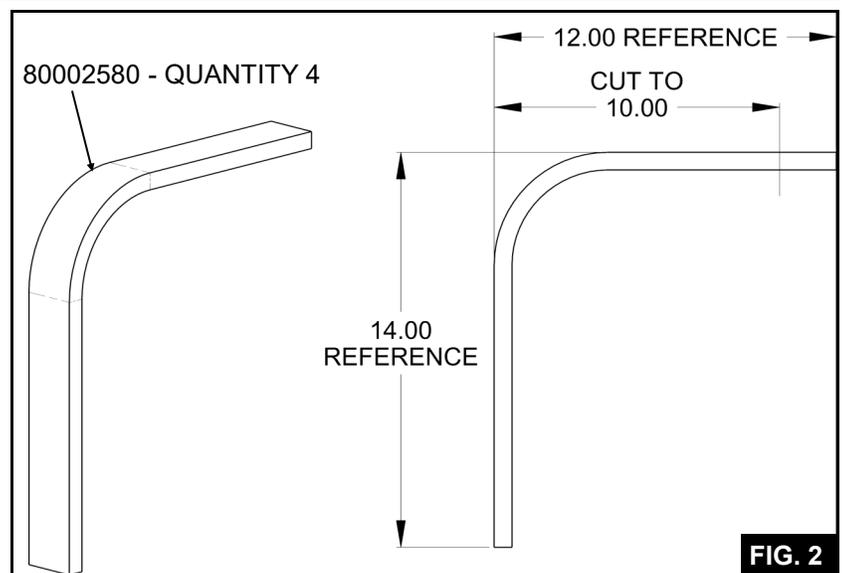

FIG. 2
3.5 Cut the 12.00 inch length leg of the 80002580 aluminum fender arms to 10.00 inches if using 12.00 inch wide fenders. See **Fig 2**.